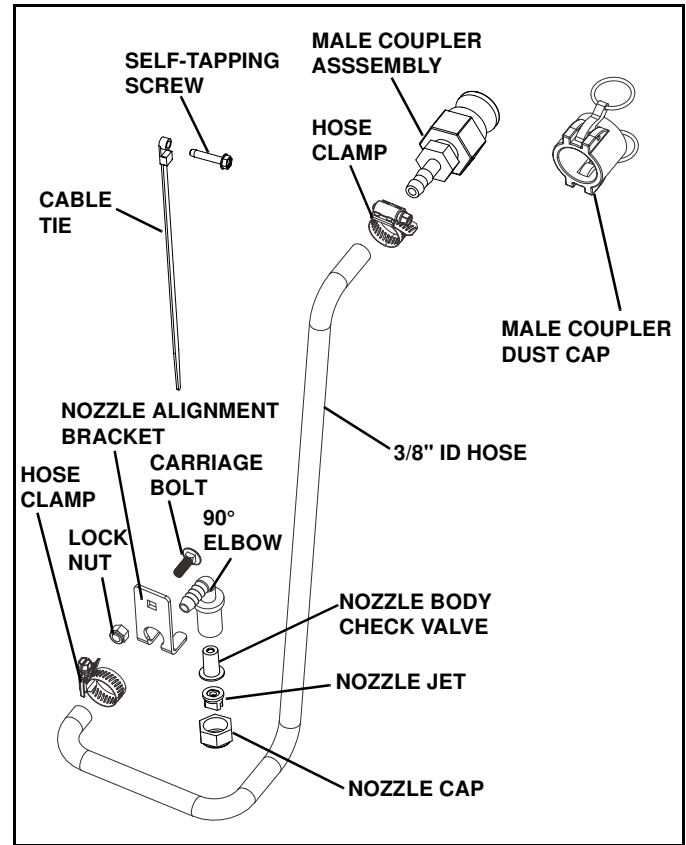

Figure 1-10
1. Open the bag marked "Chute Hose Install Kit" and locate the following parts. (See Figure 1-10)